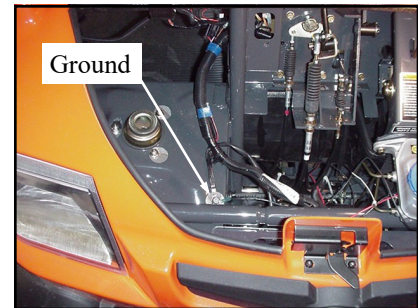

Figure 14
1. Connect black wire from wiring kit to black wire on heater. Route the other end of the black wire over to the ground connection on the passenger side under the hood. (See figure 14).
1. Drill 7/16" diameter hole in dashboard and mount switch as shown. (See figure 14). **CAUTION: check clearance behind dash before drilling to avoid damage.**
2. Connect black wire from wiring kit to black wire on heater. Route the other end of the black wire over to the ground connection on the passenger side under the hood. (See figure 14).